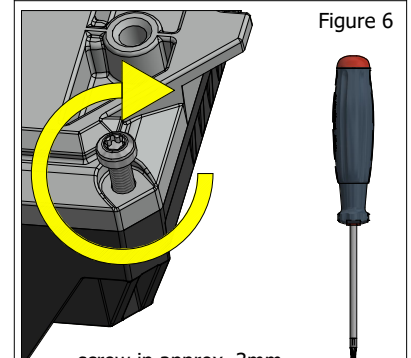

Figure 6
- 3.4.2 Use a screwdriver and turn the screw clockwise in the thread pitch, approx. 3mm (Figure 6)